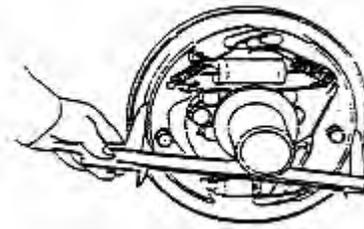

figure 2-29
(10) Connect brake oil pipe to sub-pump
(11) Measure inner diameter of brake drum and outer diameter of brake shoe, regulate adjustor, make the difference subtracting inner diameter from outer diameter equals 0.3mm-0.5mm. See figure 2-29